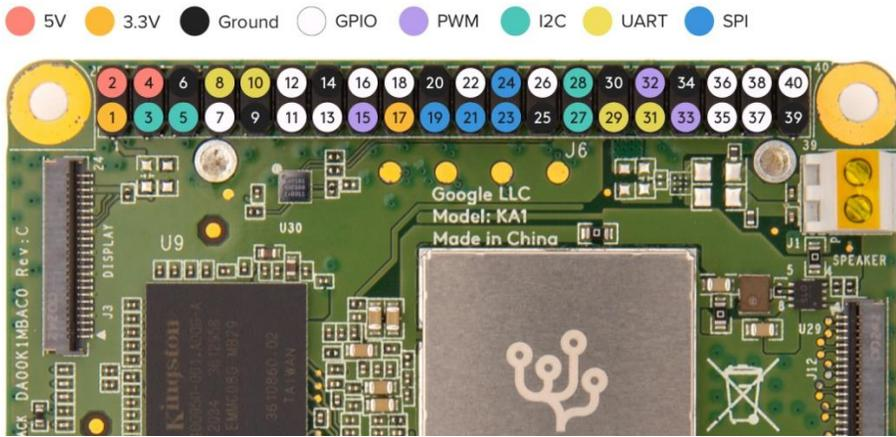

Figure 1. Default pin functions on the 40-pin header
1. Be sure the board is connected to power through the USB power port (see figure 1).